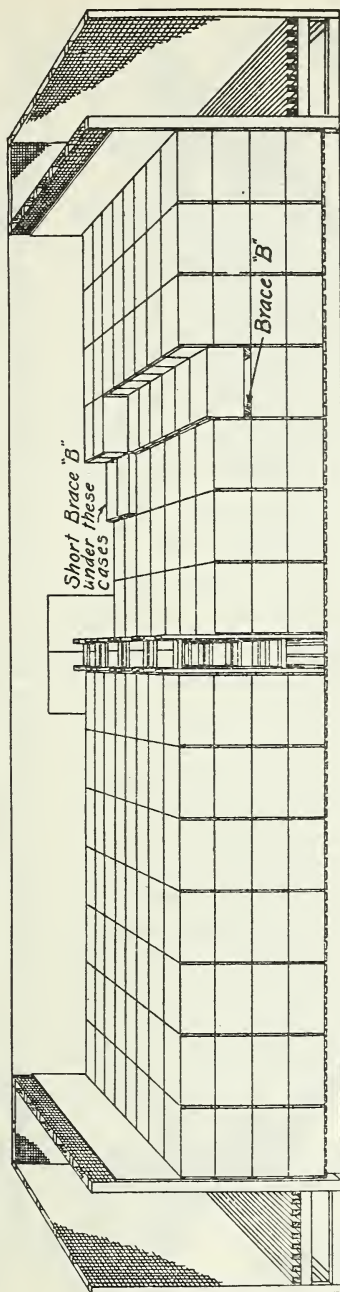

Fig. 5
Here is the brace (B) to put under the holding cases when the layer is incomplete. Use "2 x 4s" and old case lids. This lifts the stack of cases just in front of the incomplete top layer 2 inches, thus preventing roaming cases. (See Figure 5.)
Here is a 4-layer-high straight-joint load completed. It fits tightly in the car. If the top layer of your car is not complete, look at Figure 5 and follow instructions.